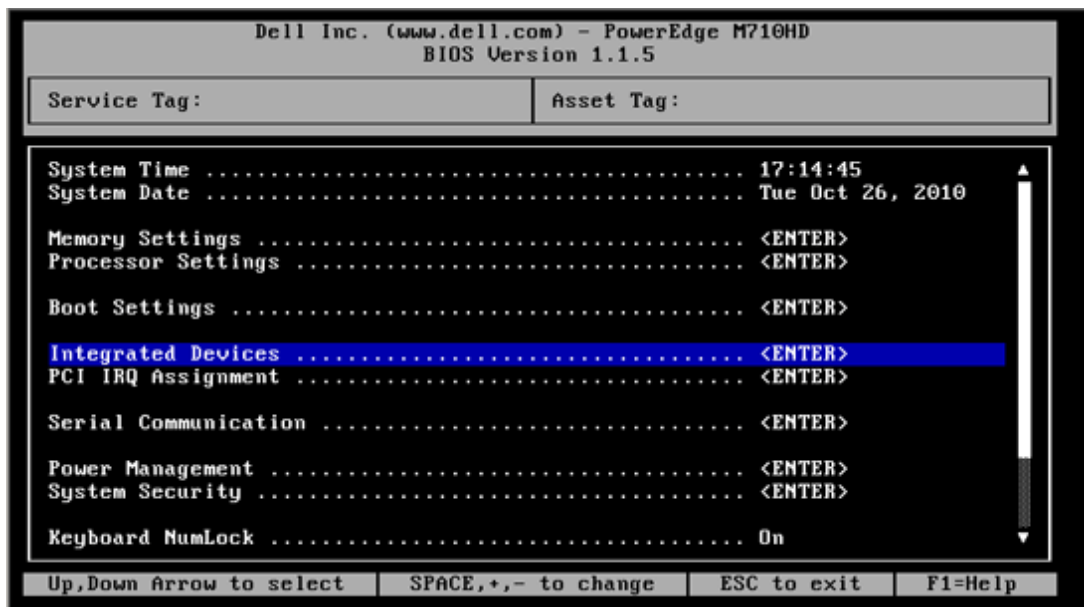

Figure 2-1. Dell BIOS: Integrated Devices
2. On the BIOS window (Figure 2-1), select **Integrated Devices**, and then press the ENTER key.